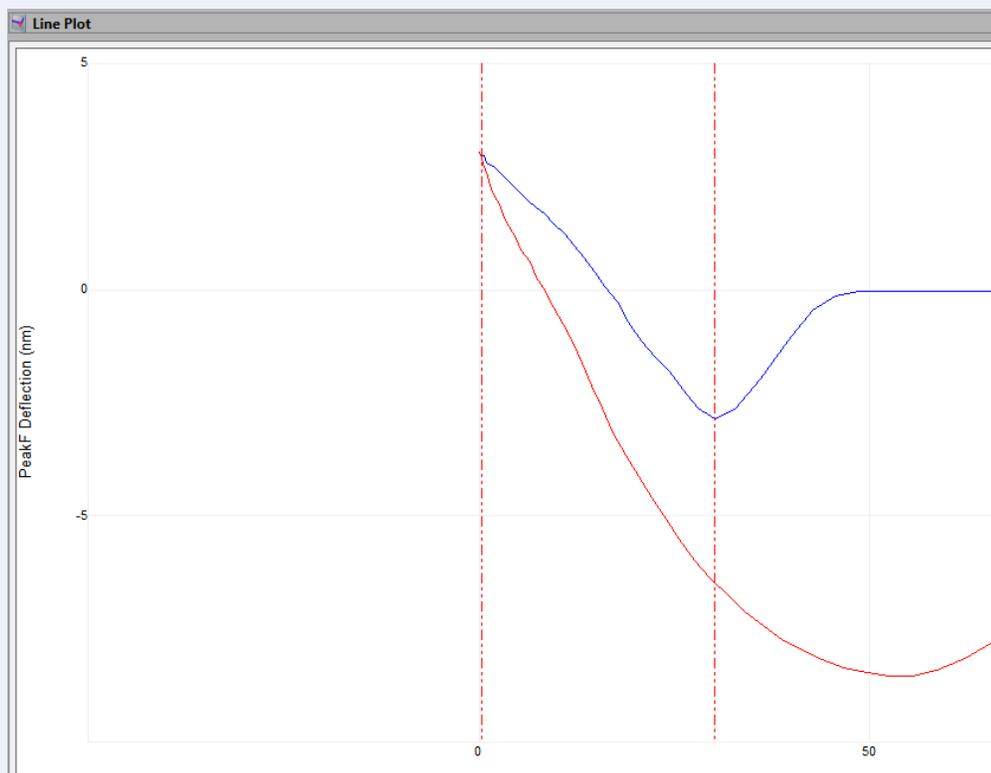

Figure 15
- i. Pull in the cursors from the left, placing one at the start of the blue curve and one at the bottom, as per Figure 15.